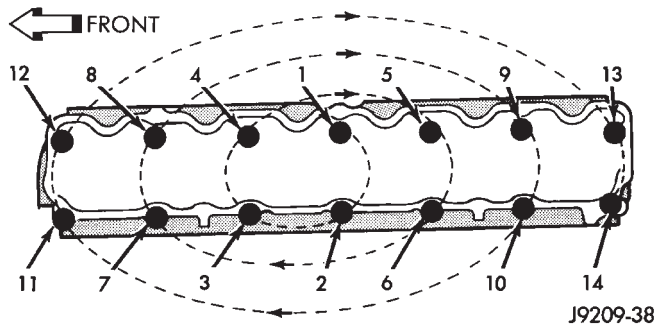

Fig. 7 Engine Cylinder Head Bolt Tightening Sequence
(3) With bolt No.14 held in place (tape around bolt), install the engine cylinder head. Remove the tape from bolt No.14.
(4) Coat the threads of stud bolt No.11 with Loctite 592 sealant, or equivalent.
(5) Tighten the engine cylinder head bolts in sequence according to the following procedure (Fig. 7):